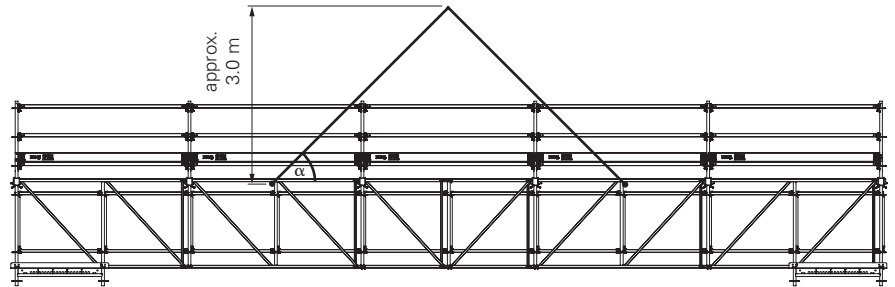

Fig. A4.01a
1. Attach the Working Platform LGS 150 to the crane using 4-sling lifting gear, $\alpha = \text{approx. } 45^\circ$. (Fig. A4.01a)